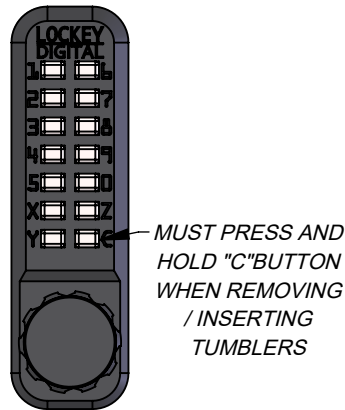
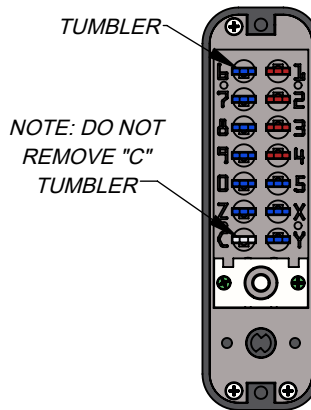
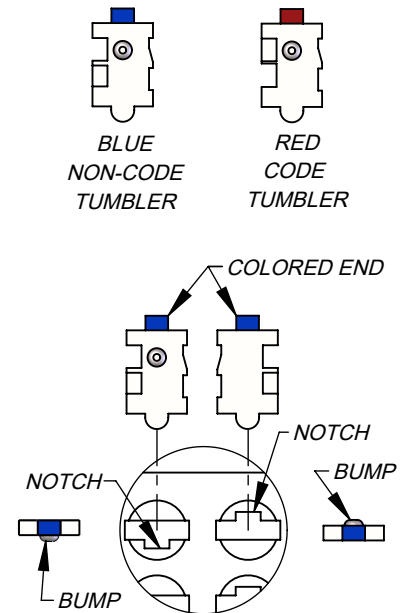

Figure 2
Figure 3
Figure 4
3) **WARNING:** The "C" button must be pressed and held while removing or adding tumblers (Figures 2 and 3). Do not remove the "C" tumbler (Figure 3). While holding down the "C" button, remove a CODE (Red) or NON-CODE (Blue) tumbler using the included tweezers, and replace it with the opposite type to create the desired code (Figure 3). The colored end must face out for each tumbler, and the bump of the tumbler must be aligned with the notch in the slot (Figure 4). The installer can choose how many CODE tumblers versus NON-CODE tumblers to use to make the code longer or shorter.